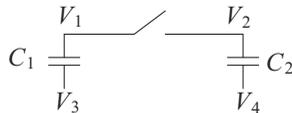

Figure 16.71 Circuit for Problem 16.6.
- 16.6 In Fig. 16.71, if the top plate of capacitor C_1 is initially charged to V_1 and the top plate of capacitor C_2 is initially charged to V_2 , estimate the final voltage, V_{final} , on the top plates of the capacitors after the switch closes.